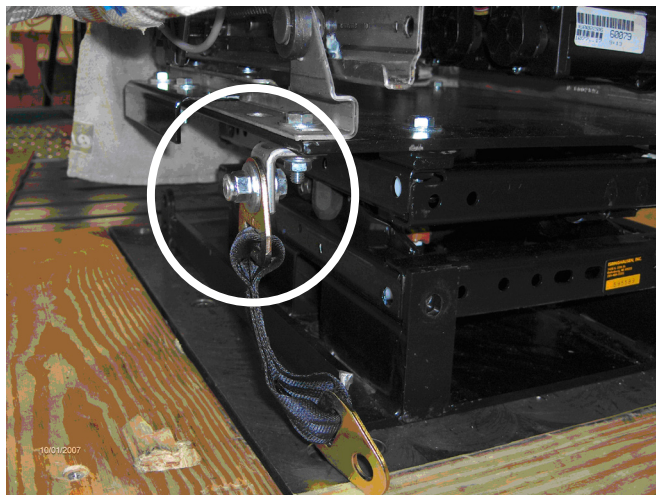

Figure 3
4. Remove the nut and washer from the top front bolt. Install the bracket; reinstall the washer and nut on the bolt. The vertical leg of the bracket faces to the outside. Tighten the bolt and nut with two 1/2" wrenches (*Figure 3*).